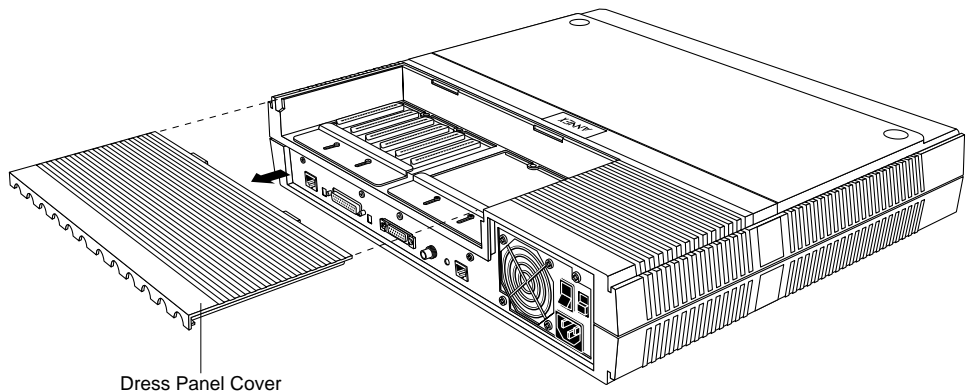

Figure C-1. Removing the Dress Panel Cover
The following instructions describe disassembling the Remote Annex 4000; these instructions assume that you are facing the unit's rear panel. Figure C-1 illustrates the instructions.
- 3 Remove the dress panel cover by pulling it toward you (Figure C-1).